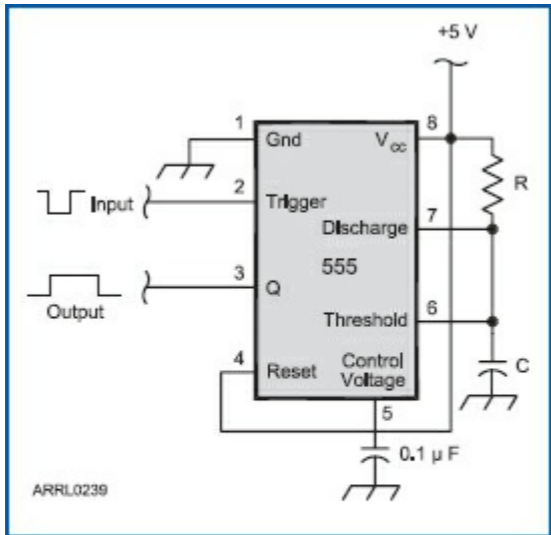

Figure 5.40 — A 555 timer IC can be connected to act as a one-shot multivibrator. See text for the formula to calculate values for R and C.
In **Figure 5.40**, the popular 555 timer IC is shown connected as a one-shot multivibrator. The action is started by a negative-going trigger pulse applied between the trigger input and ground. The trigger pulse causes the output (Q) to go positive until capacitor C charges to two-thirds of V_{CC} through resistor R. At the end of the timing period, the capacitor is quickly discharged to ground. The output remains at logic 1 for a time determined by: